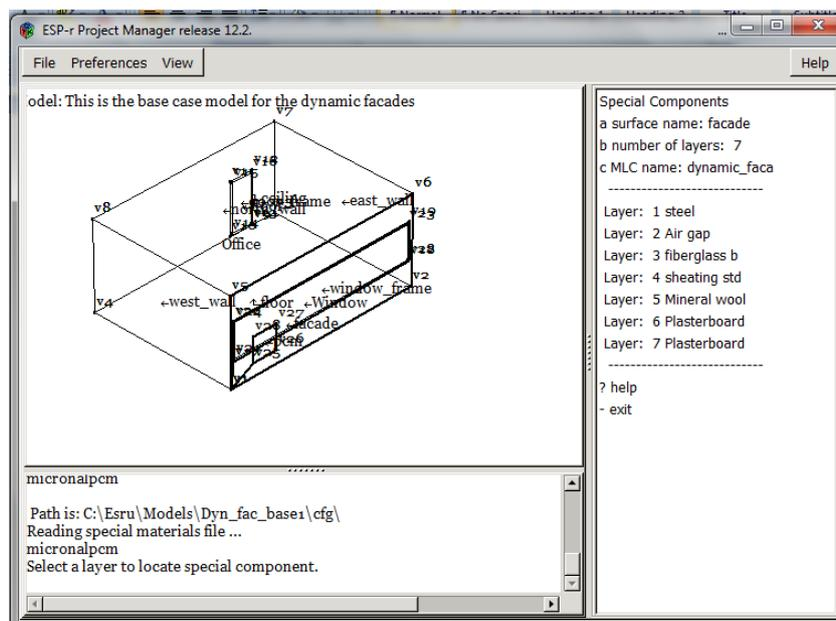

Figure 13
Step 13: The programme will then ask in which layer of material within the chosen wall the phase change materials are to be added and this is entirely dependent on the structure of the building. In the case of our project we put it on the innermost layer of material, therefore, click> Layer: 7 *plasterboard* (figure 13).